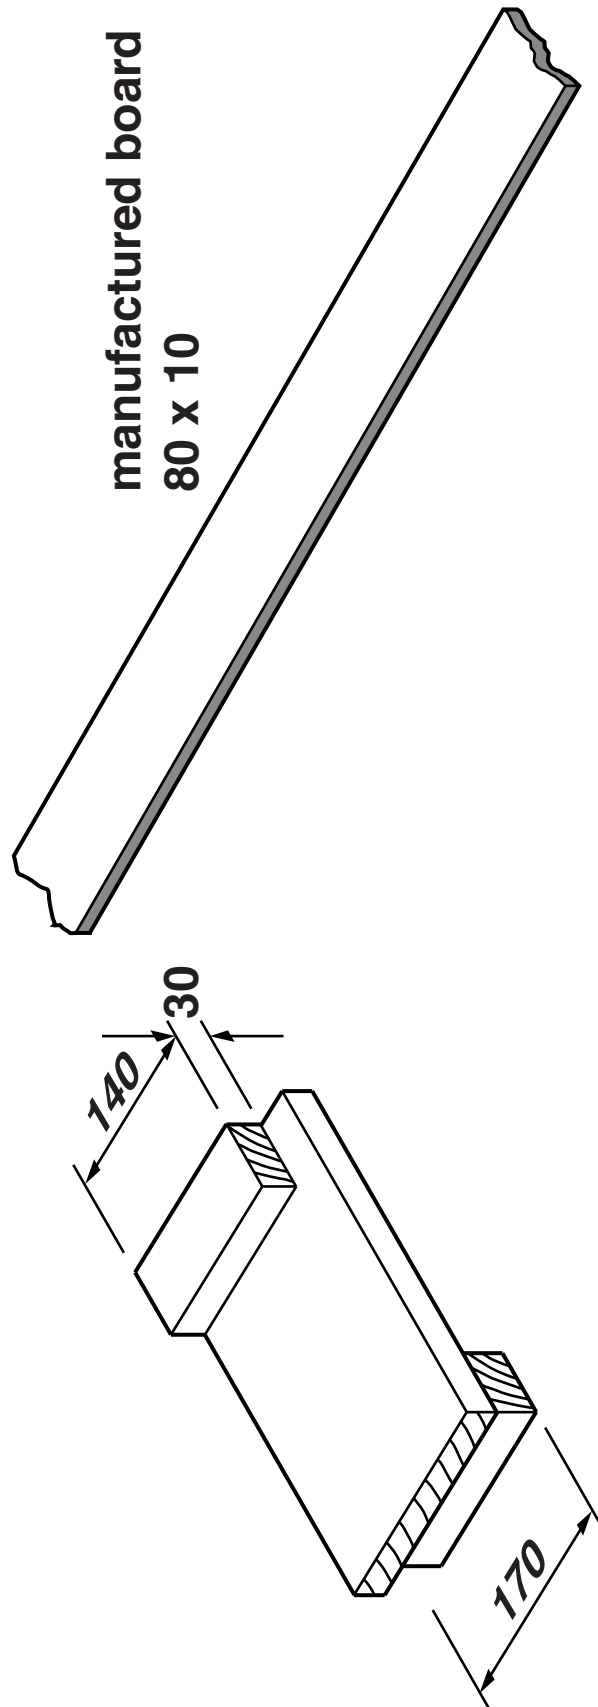

Fig. 6
- (c) Fig. 6 shows details of a bench hook and a length of manufactured board from which the dominoes will be sawn. Each domino is 150 mm long.